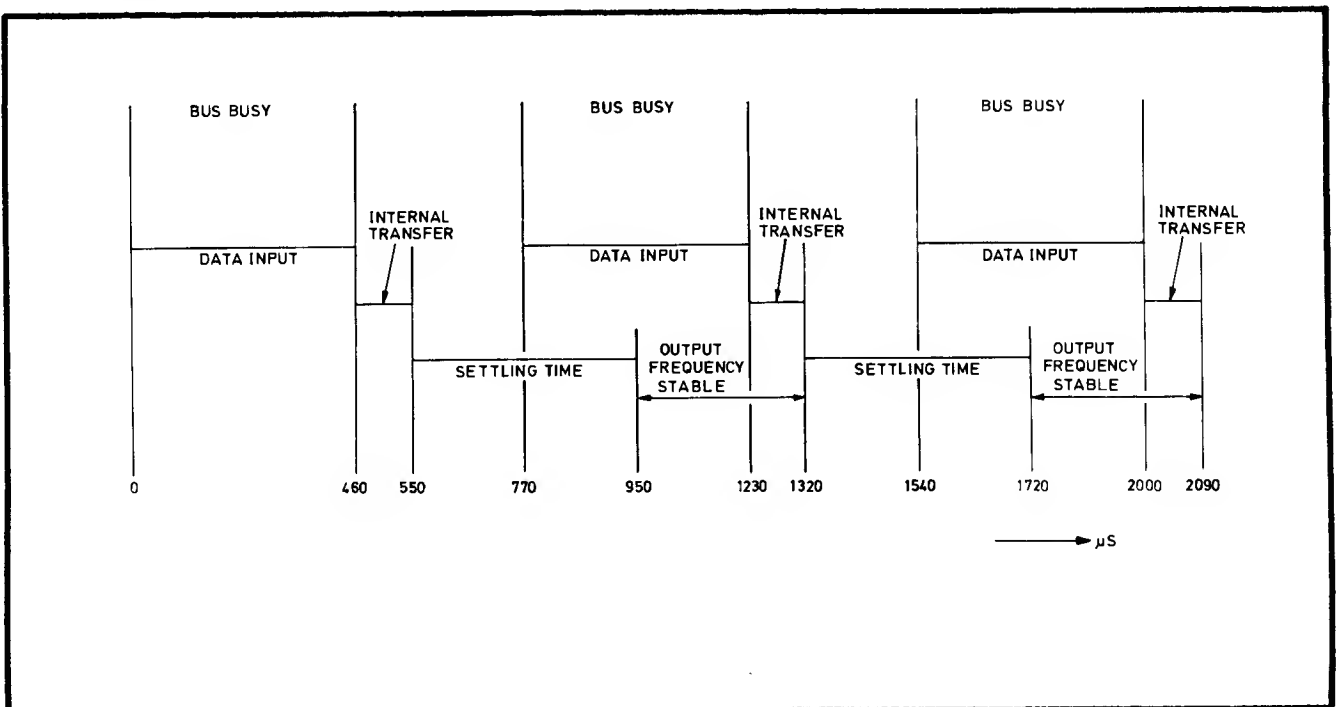

Fig. 5.2 Fast-Learn Mode Timing
5.11.3.2 Since the processing time is 770 μ s, the receipt of a second string may commence before settling is complete. Operation at the maximum rate is illustrated in Fig. 5.2.